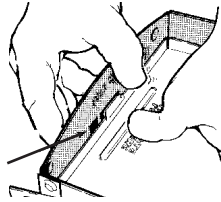

FIG. 2
2. Remove wiring cover from housing by pulling straight out. Unit is shipped ready to wire through the top of housing. To wire through the side, bend housing flap to cover top hole and expose side hole. DO NOT BREAK OFF FLAP. If flap breaks, Plug unused hole using standard electrical hole plug. (FIG. 2)